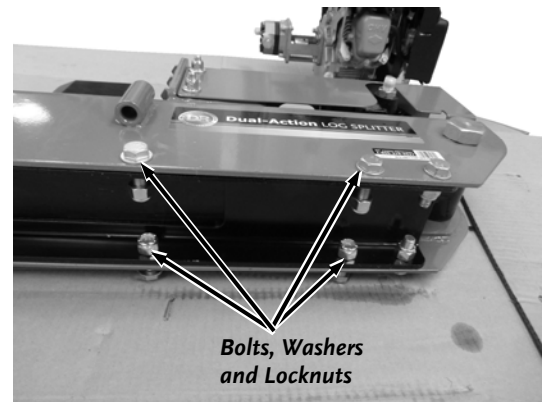

Figure 3
1. Position the Beam at the center of the pallet and lay it on its side to remove the four sets of Bolts, Flat Washers and Locknuts where the Axle assembly attaches (**Figure 3**).